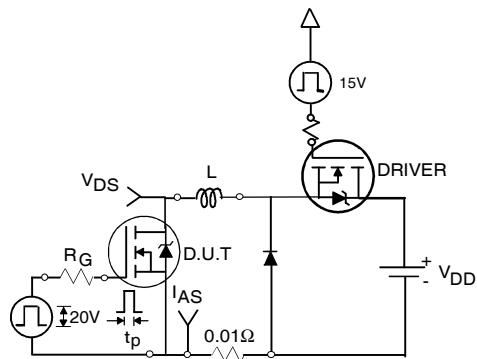

Fig 12a. Unclamped Inductive Test Circuit
- ③ $I_{SD} \leq 125\text{A}$, $dI/dt \leq 260\text{A}/\mu\text{s}$, $V_{DD} \leq V_{(\text{BR})\text{DSS}}$, $T_J \leq 175^\circ\text{C}$
- ④ Pulse width $\leq 400\mu\text{s}$; duty cycle $\leq 2\%$.
- ⑤ $C_{oss \text{ eff.}}$ is a fixed capacitance that gives the same charging time as C_{oss} while V_{DS} is rising from 0 to 80% V_{DSS} .
- ⑥ Calculated continuous current based on maximum allowable junction temperature. Package limitation current is 90A.
- ⑦ Limited by $T_{J\max}$, see Fig.12a, 12b, 15, 16 for typical repetitive avalanche performance.
3. Equation below based on circuit and waveforms shown in Figures 12a, 12b.